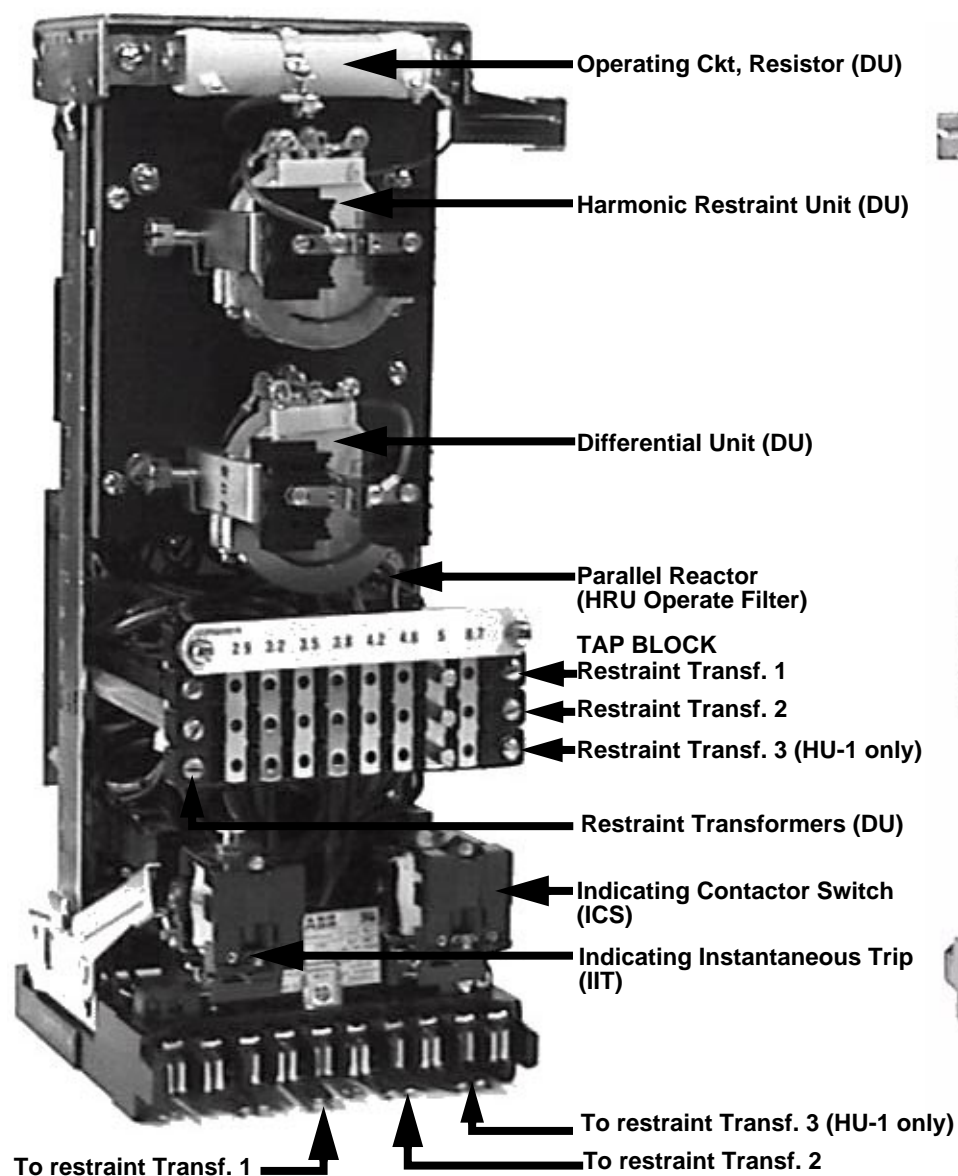

Figure 1. Type HU, HU-1 Relays - Front View Photo
The types HU and HU-1 relays consist of a differential unit (DU), a harmonic-restraint unit (HRU), an indicating instantaneous trip unit (IIT) and an indicating contactor switch (ICS). The principal parts of the relay and their locations are shown in figures 1, 2, 3, and 4.